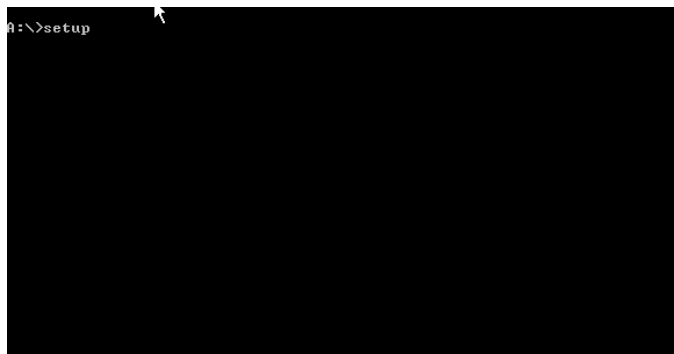

Figure 52 – DOS Prompt Installation
2. At the **a:\** prompt, type **setup** and press **<ENTER>**. See Figure 52.